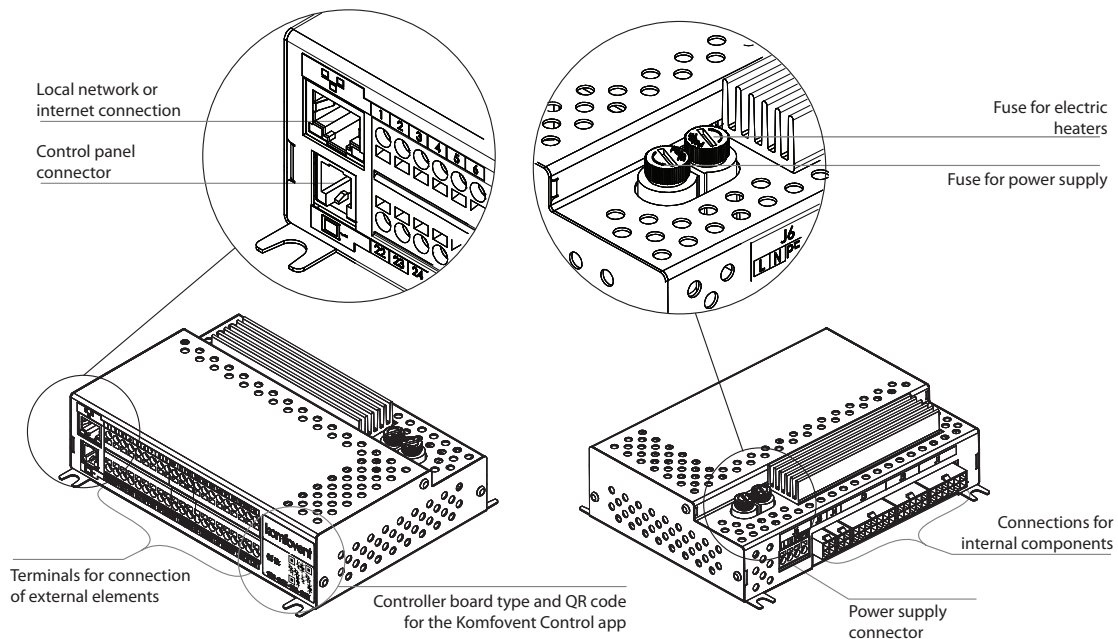

Fig. 12. C6M controller main board
- The terminal numbering shown here only applies for C6M controller board. Before connecting the external elements, check the board type on the sticker in the front of the controller (see Fig. 12).
It is advisable to run the control panel cable in such a way that it does not go near the power supply wires or high voltage electrical equipment (electrical inlet cabinets, electric water heating boiler, air conditioning unit, etc.). The cable can be passed through the holes in the back or bottom of the control panel (follow the installation instructions supplied with the control panel). The wire to C6M controller board is connected to a dedicated slot (RJ9 connector; see Fig. 12) or to the terminals for external connections.
The unit can be controlled not only by the control panel, but also by computer or smart phone. In such cases, the air handling unit must be connected to an local computer network or to the Internet. The unit is controlled by a computer using a web browser, or a smartphone with a Komfovent Control app. The air handling unit is connected to the computer network with a CAT5 type cable (RJ45 connector; see Fig. 12). The total cable length between the unit and the network router must not exceed 100 m.
- The easiest way to manage your unit over the internet is to use a smartphone with the Komfovent Control app. Launch the app on your phone (the phone must have Internet access). When you connect for the first time, the app will ask you to scan the QR code at the front of the controller board (see Fig. 12). When you scan the code, the app will automatically establish the connection to the unit (for more information on the Komfovent Control app, see "Domekt User Guide").